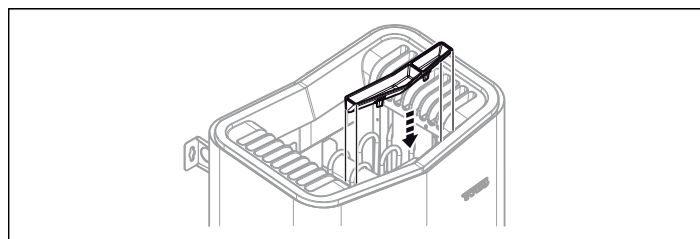

Figure 9: Fitting the fragrance holder/air humidifier
7. Attach the herb bowl/air humidifier (see Figure 9, Page 7).